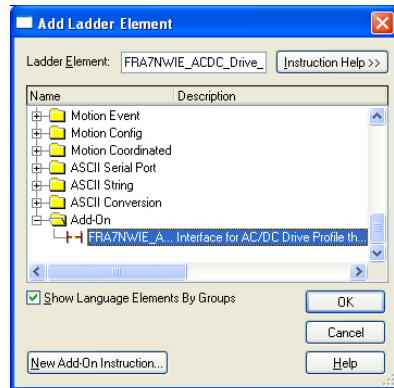

Figure 95: Add AC/DC Drive Profile Add-On Instruction
- 8) Select the AC/DC drive profile add-on instruction in the Add-On folder. Refer to Figure 95.